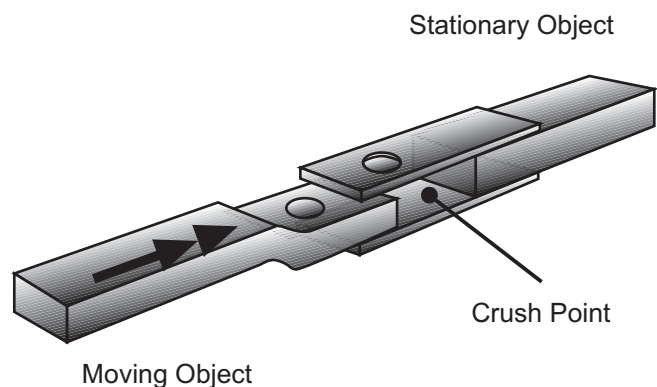

Figure 2. Hitches present typical crush points.
- **Crush points** are hazards involving two components moving toward each other (Figure 2). Examples of crush-point hazards are the raising and lowering equipment with a three-point hitch, components that are moved by hydraulic cylinders, and the areas between the tractor and machinery when hitching or turning.